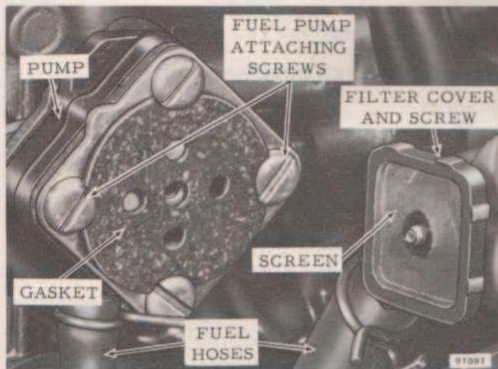

Figure 3-17. Fuel Pump and Filter
Before replacing fuel pump, remove and install a new filter screen and gasket. See Figure 3-17. Also remove the fuel line from the fuel tank and blow through all passages and lines with compressed air to be sure they are open. This may be the cause of inadequate fuel delivery, and if so, would eliminate unnecessary replacement of the fuel pump. If this procedure does not correct the trouble fuel pump is probably malfunctioning and should be replaced.
- b. To remove fuel filter, remove screw and cover attaching filter to fuel pump. See Figure 3-17.
- c. To remove fuel pump, remove two screws attaching pump to power head, and remove pump assembly. See Figure 3-17.